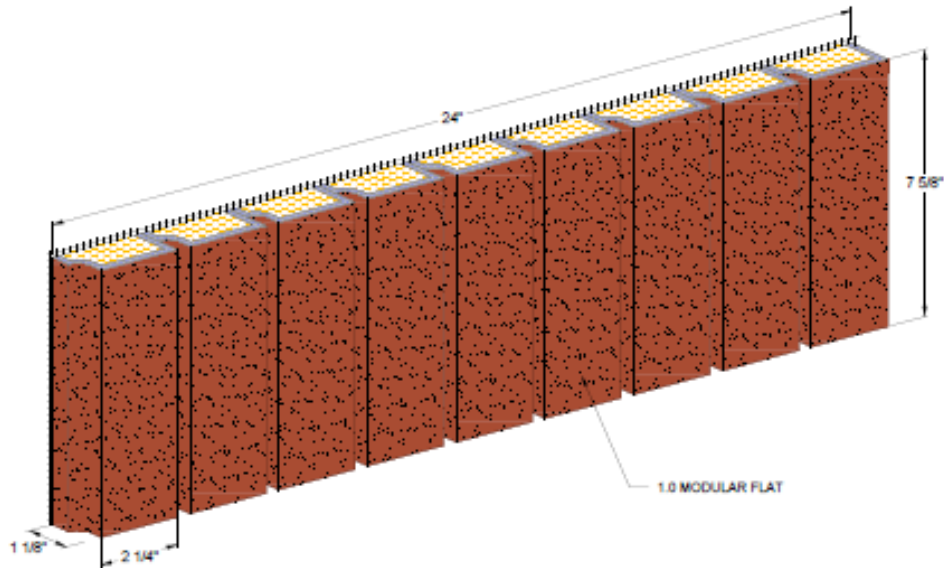

Figure 6: NewBrick Mosaic Soldier Course
- 2. 9 brick soldier course (see Figure 6).